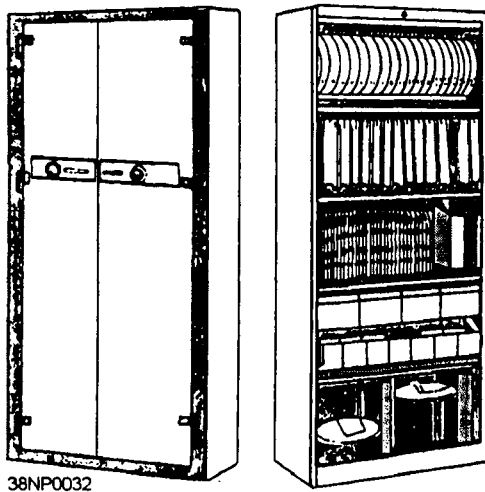

Figure 9-3.—A magnetic media storage container.
- Store reels, cartridges, and cassettes in an electromagnetic shielded cabinet elevated from the floor and free of contaminants. See figure 9-3 for an example.